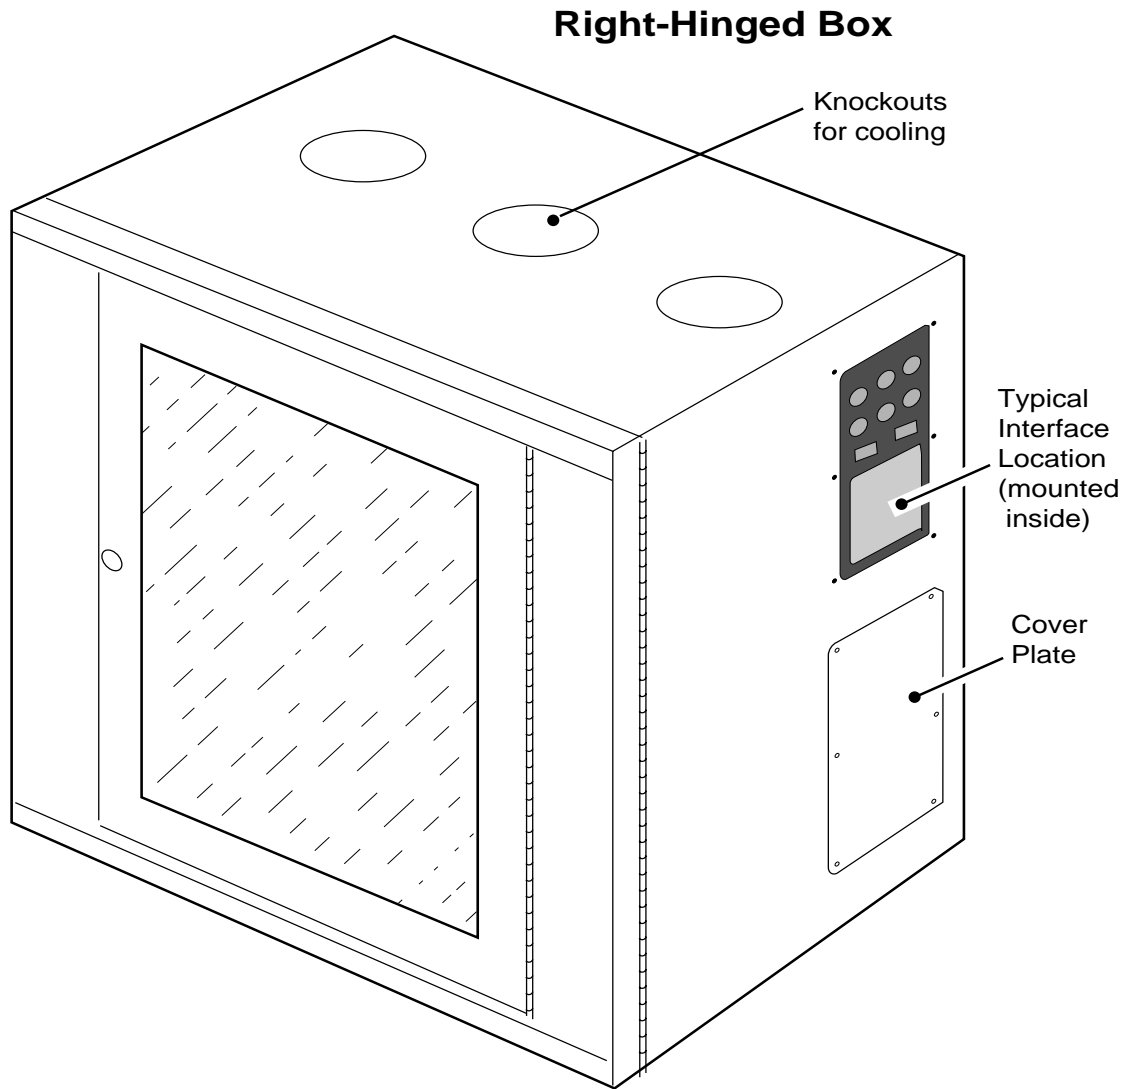
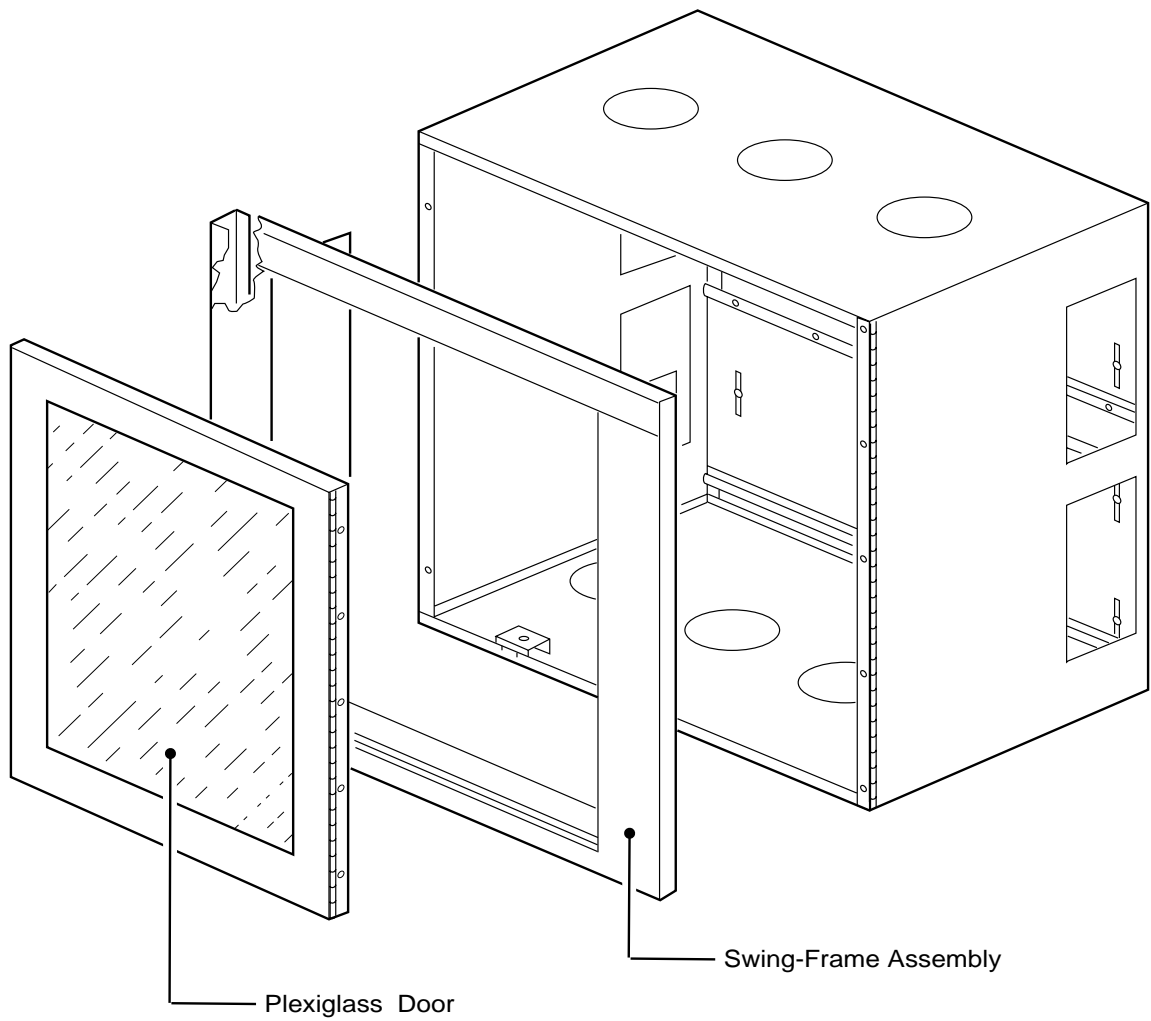

Figure 1. J-Series Codec Demarcation Right-Hinged Cabinet
Figure 2. J-Series Codec Demarcation Cabinet — Exploded View
The codec units are installed onto standard rack-mounting holes on the Demarcation Cabinet door's swing- frame assembly. A wire cable harness from an Interface Panel connects to the backplane of the codec(s) that mounts on the inside of the cabinet. The Interface Panel replaces any one of the four cover plates on the sides of the cabinet. See Figure 1.
The Demarcation Cabinet (see Figure 1 for a regular view or Figure 2 for an exploded view) is designed to suit a variety of needs and locations. The entire cabinet can also be turned either up or down so that the front door hinges from the right or left side.
The cabinet can be configured as left-hinged or right-hinged. Figure 1 shows a right-hinged one. The Interface Panel is mounted one of the upper coverplate opening on the side with the hinge for a single 2 RU codec. For multiple 2 RU codecs, additional Interface Panels are mounted below the first one and then on the other side of the cabinet. For the 6 RU codec, from one to four openings are filled with Interface Panels.
3. Open the outer, plexiglass door (see Figure 2) and mount the codec frame. Standard mounting holes are located on the right and left sides of the enclosure.